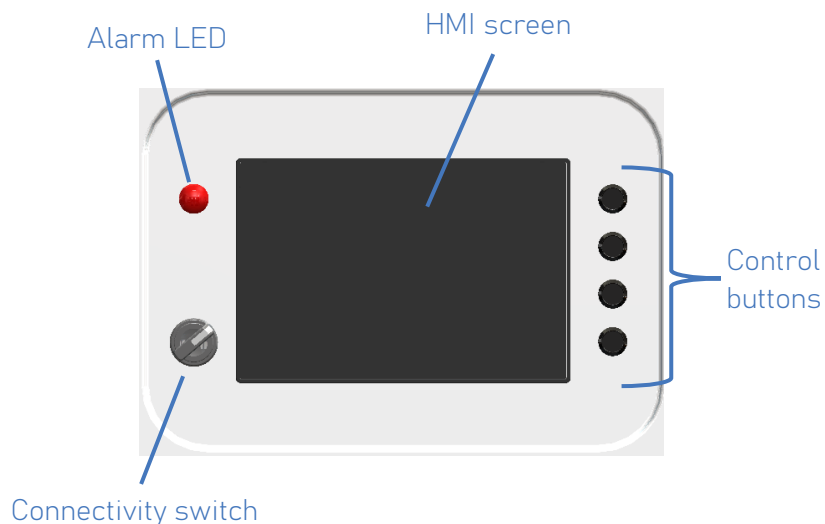
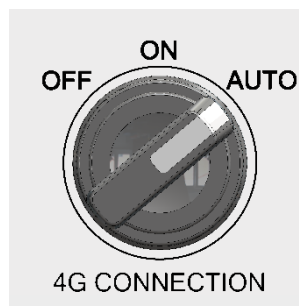

Figure 9 - Control unit – Human/Machine Interface (HMI)
Figure 15 – Connectivity switch set to AUTO position.
**Figure 9** is a touch screen that allows the user to:
1. Press any control button (**Figure 9**);
Figure 9 has three positions:
- Ensure the connectivity switch (Figure 9) is set to the **AUTO** position (Figure 15).